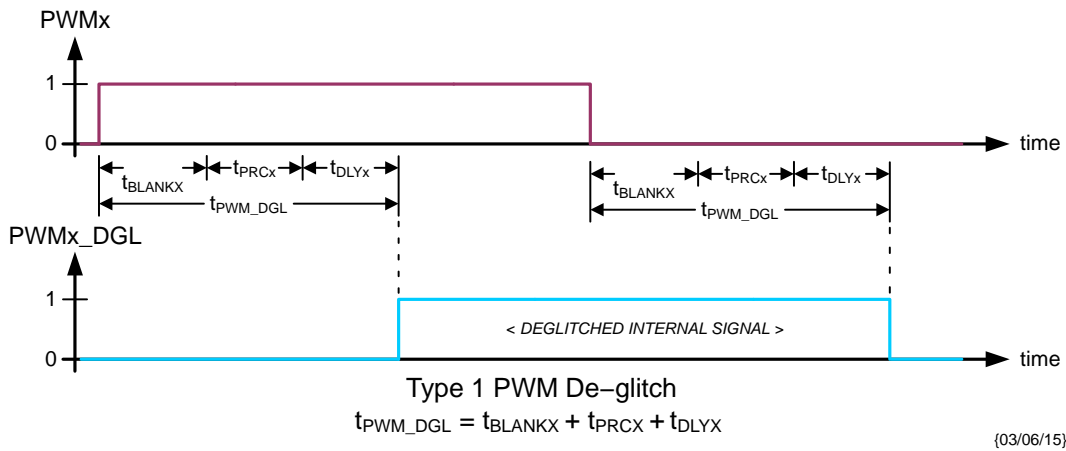
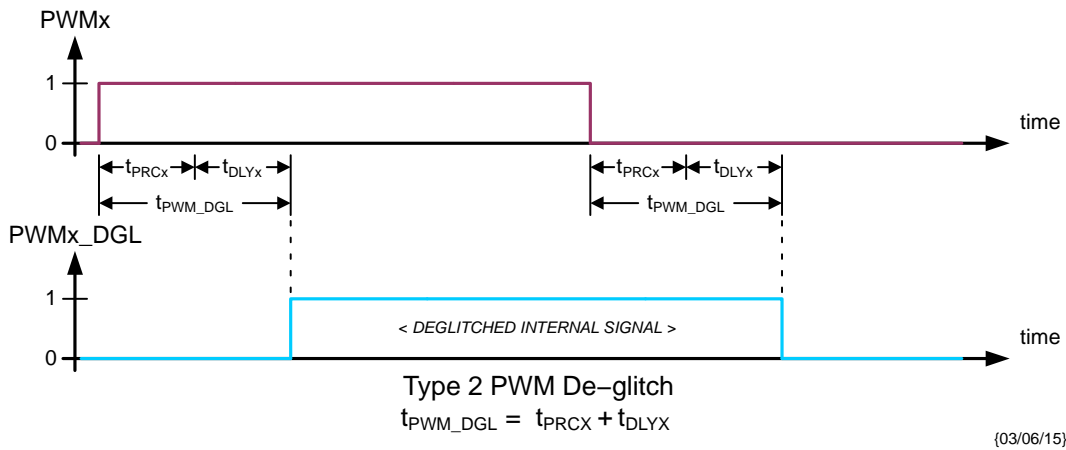
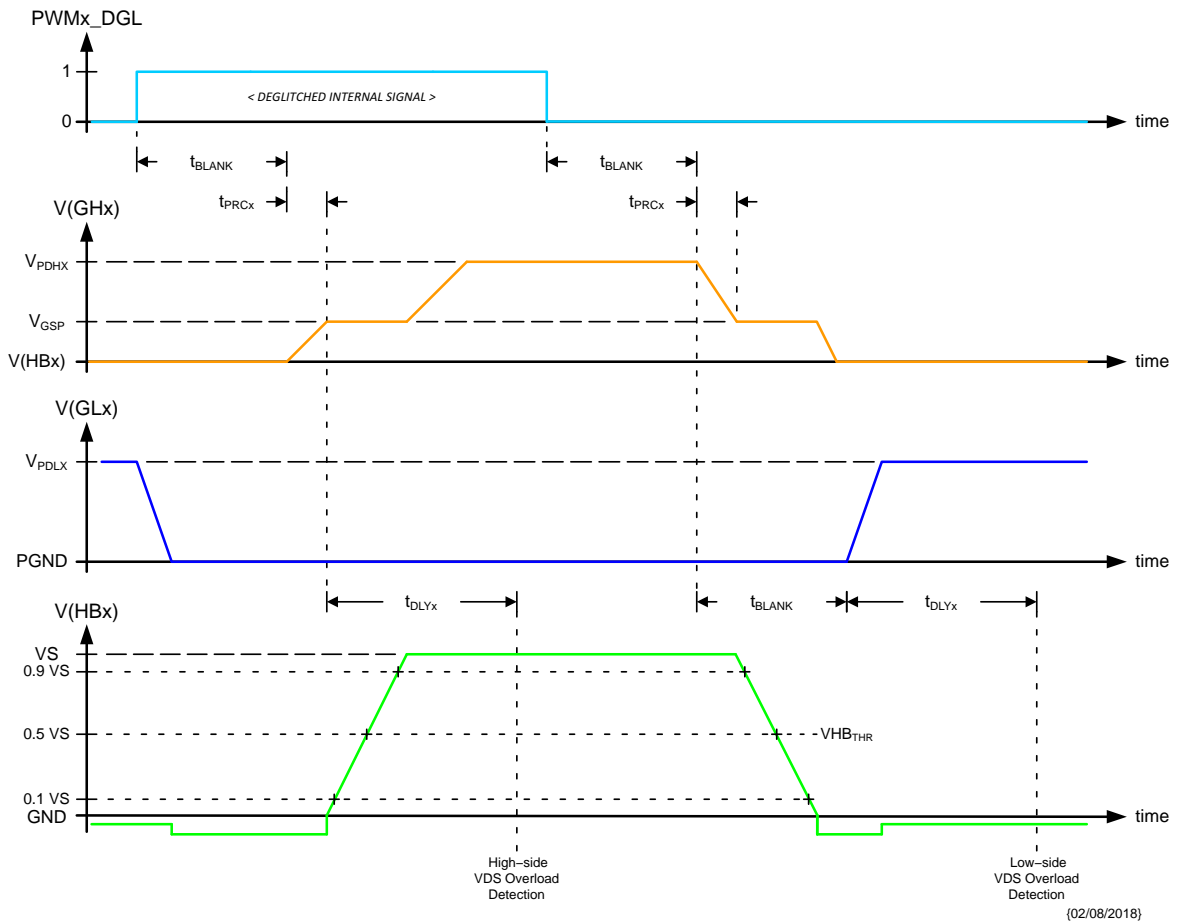

Figure 10. Type 1 PWMx Input De-glitch – CR14.DGLx = 0
Figure 11. Type 2 PWMx Input De-glitch – CR14.DGLx = 1
Figure 12. HBx Output Switching in Half-Bridge Configuration
When multiple PWM_x inputs are needed to be active, the scheduled PWM signals should be offset in time to avoid degradation of the VDS overload detection due to crosstalk (see § *Overload Protection*). The minimum offset should be based on the t_{PWM_DGL} times appropriate for the respective channels (see § *Switching Behavior of Half-bridge Drivers*, Figure 10 and Figure 11).
- adaptive PWM input de-glitch construction when in half-bridge configuration is selected by DGLx[6:0] bits (see Figure 10, Figure 11, Table 21 and Table 22).
In order to not overload the charge pump circuit in case of loss of VS or in case of a disconnected security switch, the steady state output current of the high-side gate drivers is limited to I_{GHX_SS} after t_{TIMEOUT} (see I(GHx) in Figure 12 and § *Electrical Characteristics: Half-Bridge Pre-Driver Outputs*).
When operating in PWM mode, type 1 de-glitch is selected when CR14.DGLx = 0 (see Figure 10) and the adapted time is given by:
Type 2 de-glitch is selected when CR14.DGLx = 1 (see Figure 11) and the adapted time is given by:
When operating in PWM mode, the timing of the gate drivers is according to Figure 12.
- the $PWMx_DGL$ resulting from the channel's operating configuration (see § *Switching Behavior of Half-bridge Drivers*, Figure 10 and Figure 11);
The appropriate latch is set (after the adapted t_{PWM_DGL} – see Figure 10 and Figure 11) at the start of the switch activation (see V(HBx) in Figure 12). In the case of the high-side MOS, the delay time t_{DLYX} is started at the end of the pre-charge time (t_{PRCX}). In the case of the low-side MOS, the delay time t_{DLYX} is started concurrent with the GLx turn-on current (see I(GLx) in Figure 11). At the end of time t_{DLYX} the switching node voltage is compared with the appropriate VDS_{THR_R} or VDS_{THR_F} overload detection threshold (see § *Electrical Characteristics: Half-Bridge Diagnostics*).